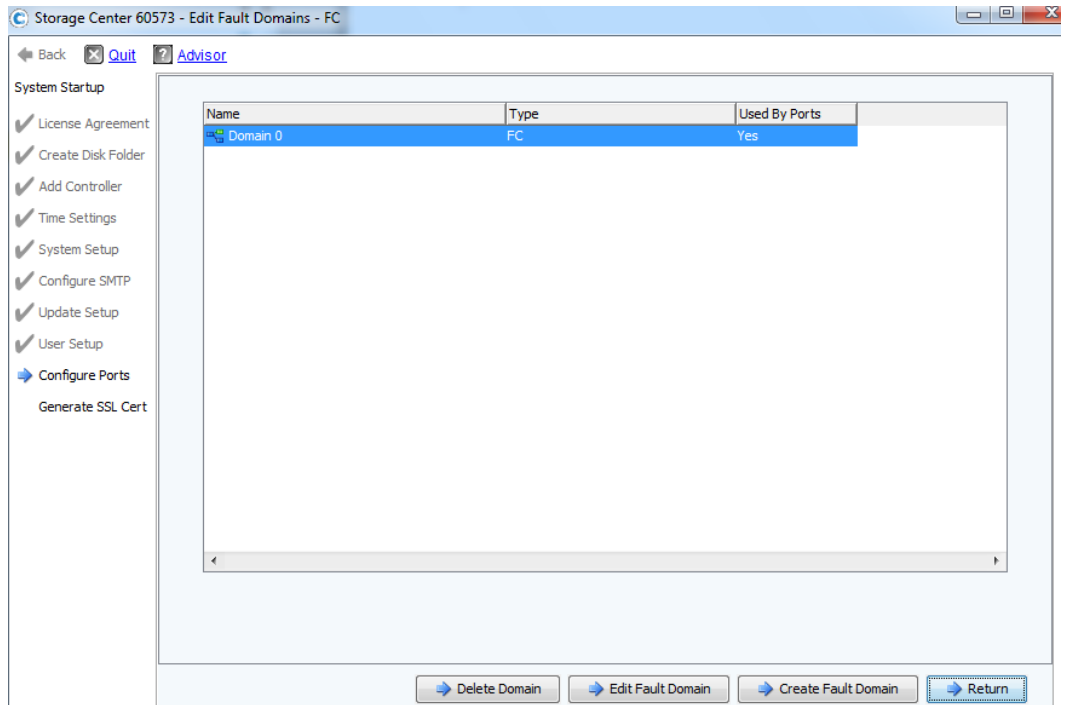

Figure 22. Edit fault domain
5. Click **Edit Fault Domain**, as shown in Figure 22.